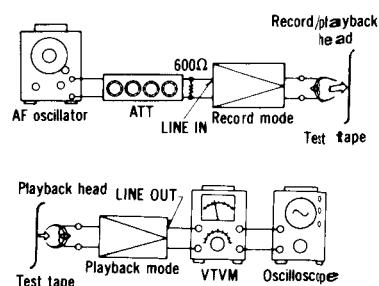
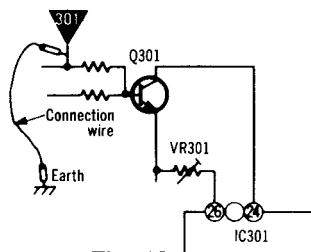
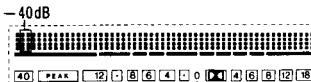
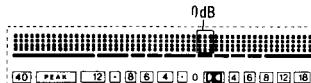

Fig. 15
Fig. 16
Fig. 17
Fig. 18
<p>G Overall gain</p> <p>Condition:</p> <ul style="list-style-type: none"> * Record/playback mode * Normal tape mode * Input level controls ... MAX * Output level control ... MAX * Standard input level; MIC -72±3dB LINE IN ... -24±3dB <p>Equipment:</p> <ul style="list-style-type: none"> * VTVM * AF oscillator * ATT * Oscilloscope * Resistor (600Ω) * Test tape (reference blank tape) ... QZZCRA for Normal 	<ol style="list-style-type: none"> 1) Test equipment connection is shown in fig. 15. 2) Place UNIT into normal tape mode, and load the test tape (QZZCRA). 3) Place UNIT into record mode. 4) Supply 1kHz signal (-24 dB) from AF oscillator, through ATT to LINE IN. 5) Adjust ATT until monitor level at LINE OUT becomes 0.7V. 6) Playback recorded tape, and make sure the value at LINE OUT on VTVM becomes 0.7V. 7) If measured value is not 0.7V, adjust VR7 (L-CH), VR8 (R-CH). 8) Repeat from step (2).
<p>H Fluorescent meter</p> <p>Condition: * Record mode * Input level controls ... MAX * Output level control ... MAX</p> <p>Equipment: * VTVM * AF oscillator * ATT</p>	<ol style="list-style-type: none"> 1. Make connections as shown (See fig. 15). 2. Connect a wire between TP301 and ground terminal (See fig. 16). 3. In the recording pause mode, apply 1 kHz (-24 dB) to LINE IN. 4. Adjust ATT so that output level at LINE OUT is 0.7 V. <p>-40dB adjustment</p> <ol style="list-style-type: none"> 5. Adjust ATT so that the level adjusted at step 4 is reduced by 40 dB. 6. At this time, check that -40 dB indicator is lighted halfway (intermediate brightness between full brightness and light-out: See fig. 17). 7. If the indicator is not lighted halfway as described in step 6, adjust VR302. <p>0dB adjustment</p> <ol style="list-style-type: none"> 8. Restore the condition of step 4 (set LINE OUT output level to 0.7 V). 9. At this time, check that 0dB indicator is lighted halfway (intermediate brightness between full brightness and light-out: See fig. 18). 10. If improper, adjust VR301. 11. Repeat adjustments and checks at steps 4, 5, 6, 7, 8, 9 and 10 two or three times. 12. Disconnect the wire between TP301 and ground terminal, which had been connected at step 2.